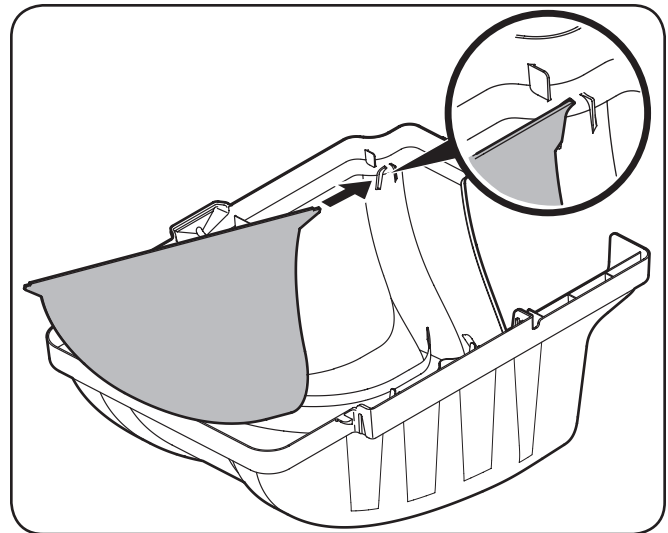
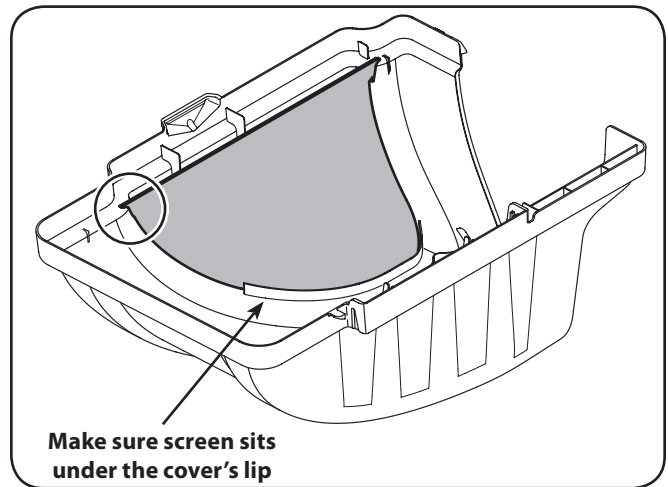

Figure 4-13
Figure 4-14
3. If not already done so by the factory, install the bagger screen into the bagger cover by first inserting the end closest to the side with the cutout into the mounting hole, as in Figure 4-13. Make sure to feed the screen under the lip, as in Figure 4-14.
4. Clip in the other side by pushing the screen into the provided cutout. See Figure 4-14.